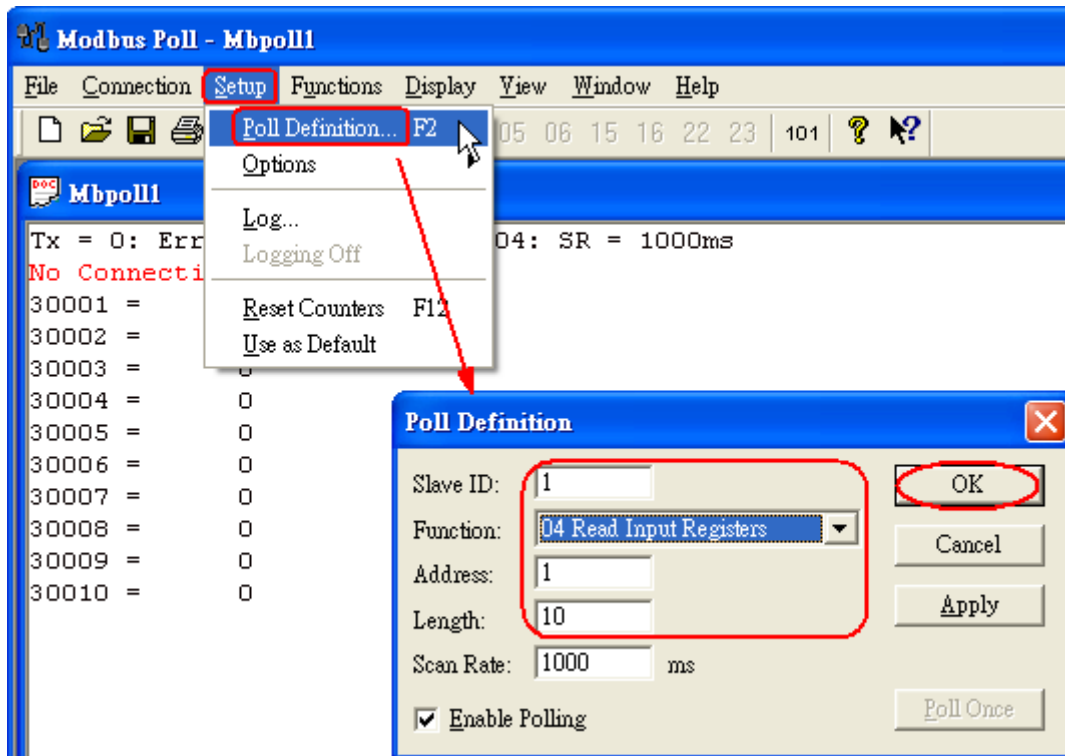

Figure 3-10 Modbus Parameters of “Modbus Poll” tool
- [2] The below MB/RTU client will use the “**Modbus Poll**” tool to show the CMD(3) data of HART device by polling Modbus address 0 ~ 9.
- <2> Set the “**Modbus**” parameters like Figure 3-10.